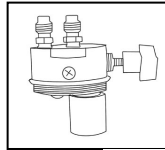

Fig 1.
2. Unscrew valve body (top) from Recycle Guard tank to access filter elements. (See Fig 1.) Valve body and adapter plate (some units may not contain adapter plate) will usually stay connected. If they stay connected, do step 3A. If adapter plate rotates, do both 3A and 3B.